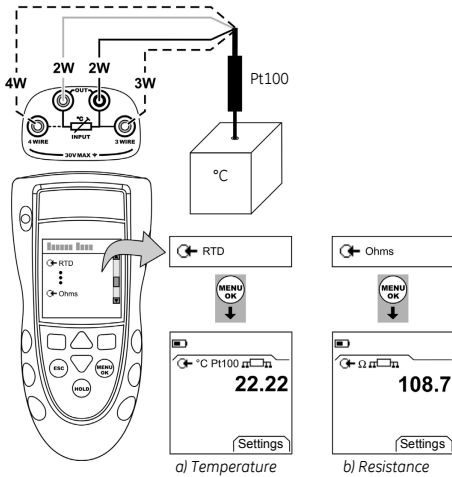

Figure 1: Example configuration - To measure the temperature or resistance of an RTD
1. Connect the instrument (Figure 1) and, if necessary, adjust the *Set Up* (Table 1).